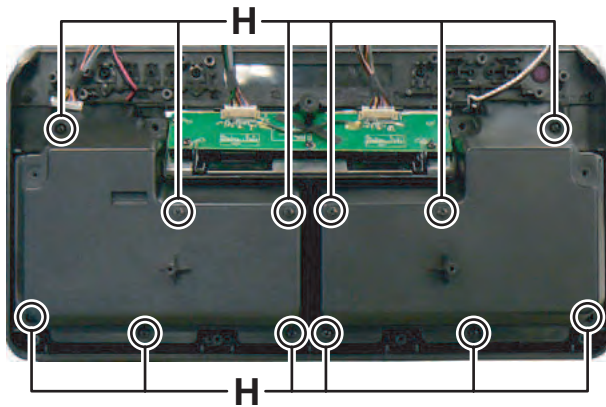

Fig.9
3.1.7 Removing the iPod board (See Fig.9 to 12)
- (1) Remove the twelve screws **H** attaching the Speaker covers. (See Fig.9)